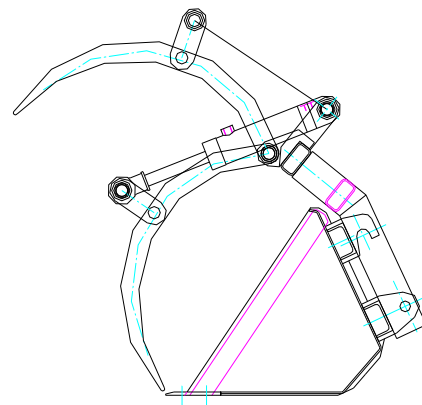

Fig.3-2 Sketch of bars-casing bucket
3.1.2 Bars-casing bucket (As shown in Fig. 3-2)